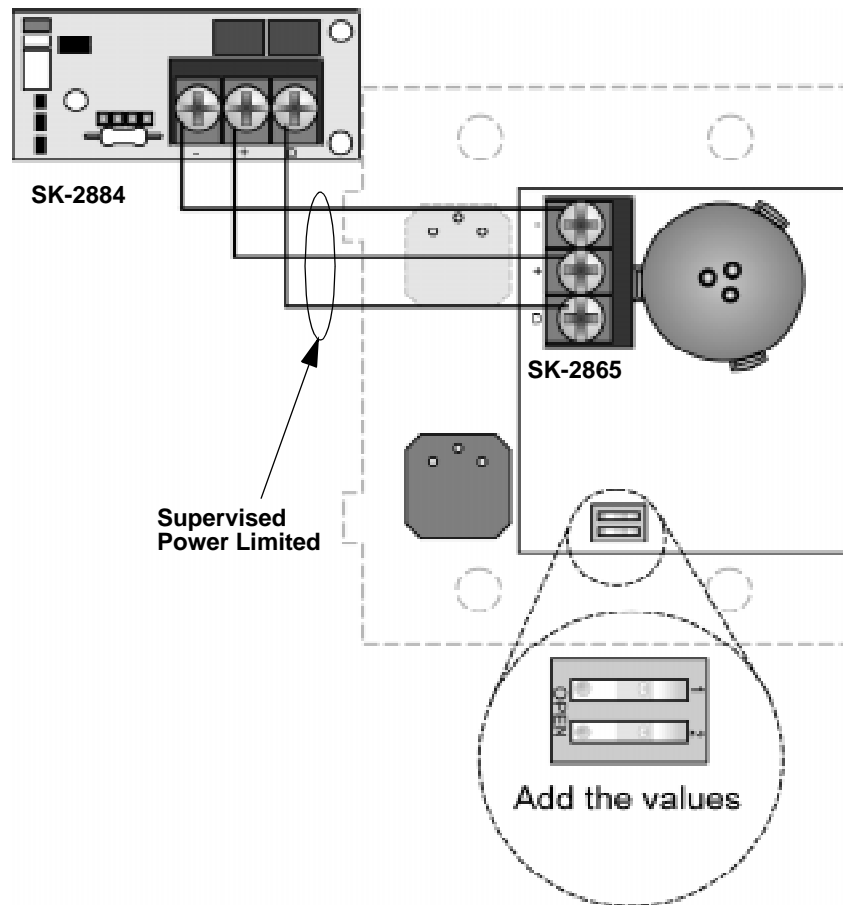

Figure 4-9 SK-2865 Connection to the SK-2884
3. Terminate the wiring as shown in Figure 4-9. See also Table 4-2.
The range of valid addresses is 0-3. Each device requires a unique address. Set the dip switches as shown in Table 4-3. See also Figure 4-9.
1. Make sure that the SK-2865 is properly wired to the control panel. See Figure 4-9.